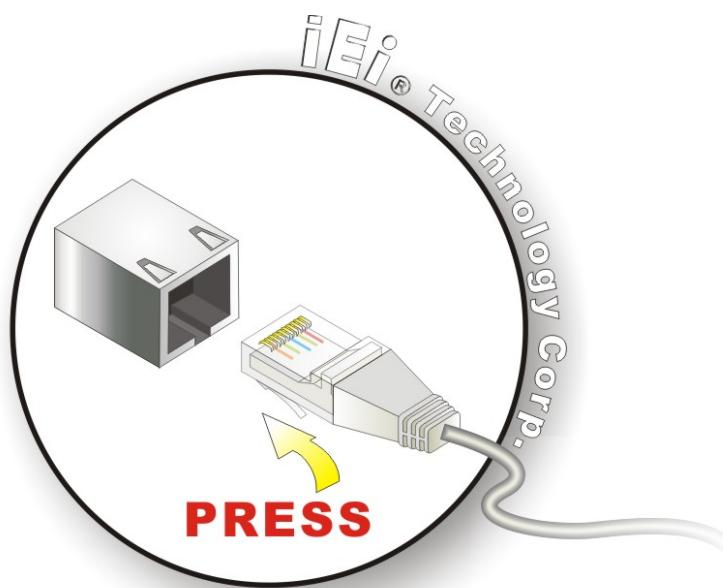

Figure 5-23: RJ-45 Ethernet Connector
Step 2: Insert an RJ-45 plug. Insert the RJ-45 plug of a LAN into the RJ-45 receptacle on the external peripheral interface. See Figure 5-23.